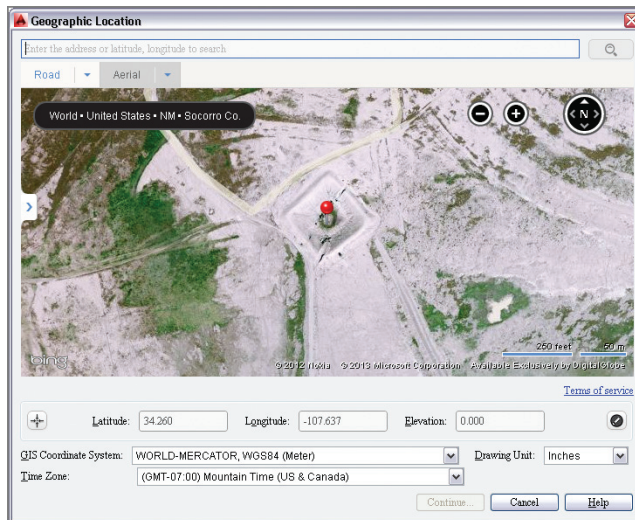

FIGURE 18.14 Specifying the geographic location of the site
3.  Select the Set Location tool in the Sun & Location panel. Select the From Map option. In the Geographic Location dialog box that appears, zoom into a hypothetical site anywhere in the world you would like. Right click the map and choose Drop Marker Here. A red pin appears on the map at that location (see Figure 18.14).